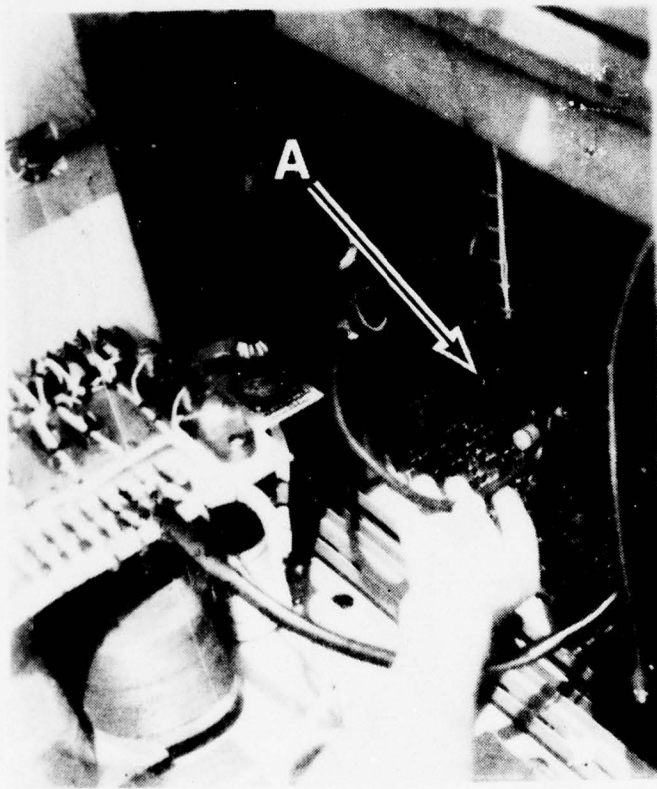
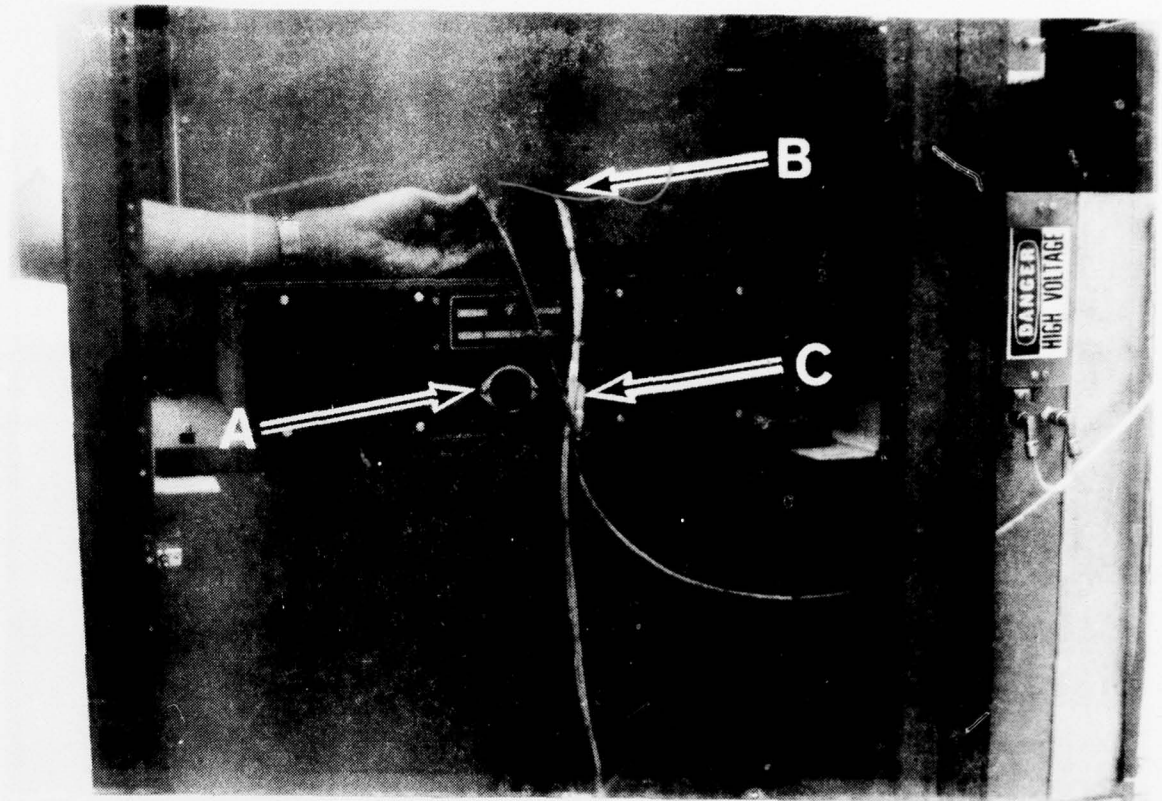

Figure 7. a.c. Power for Front Panel Convenience Outlets
Figure 8. Damped Sine Generator, PUP Preamplifier and Driver Amplifier Connections
3. a.c. power for the front panel convenience outlets (figure 7).
4. Connect the a.c. power cord to the PUP preamplifier. It is connected to receptacle "A" in figure 7 and receptacle "A" in figure 8.
5. Connect the damped-sine generator power cable. The connections are labeled "B" in figure 8.
6. Connect the "Bias-On" cable. It is shown being connected in figure 8.
7. Connect the cable between the PUP preamplifier output and the driver amplifier input. This is labeled "C" in figures 8 and 9.